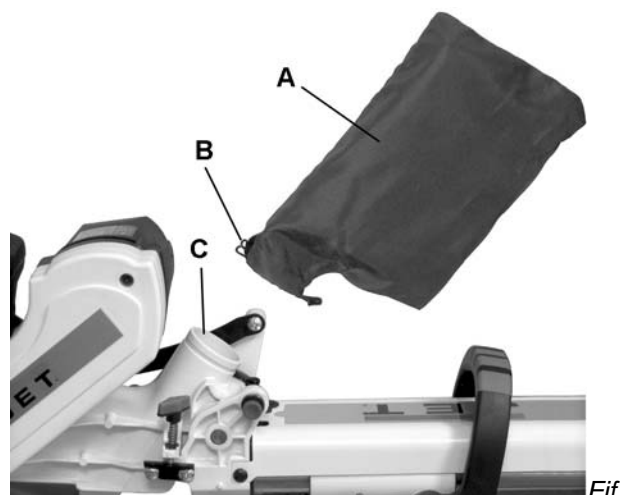

Figure 3
1. Squeeze the metal *collar wings* (B, Fig. 3) of the dust bag (A, Fig. 3).
2. Place the dust bag neck opening around the exhaust port (C, Fig. 3), and release the *collar wings* (B).